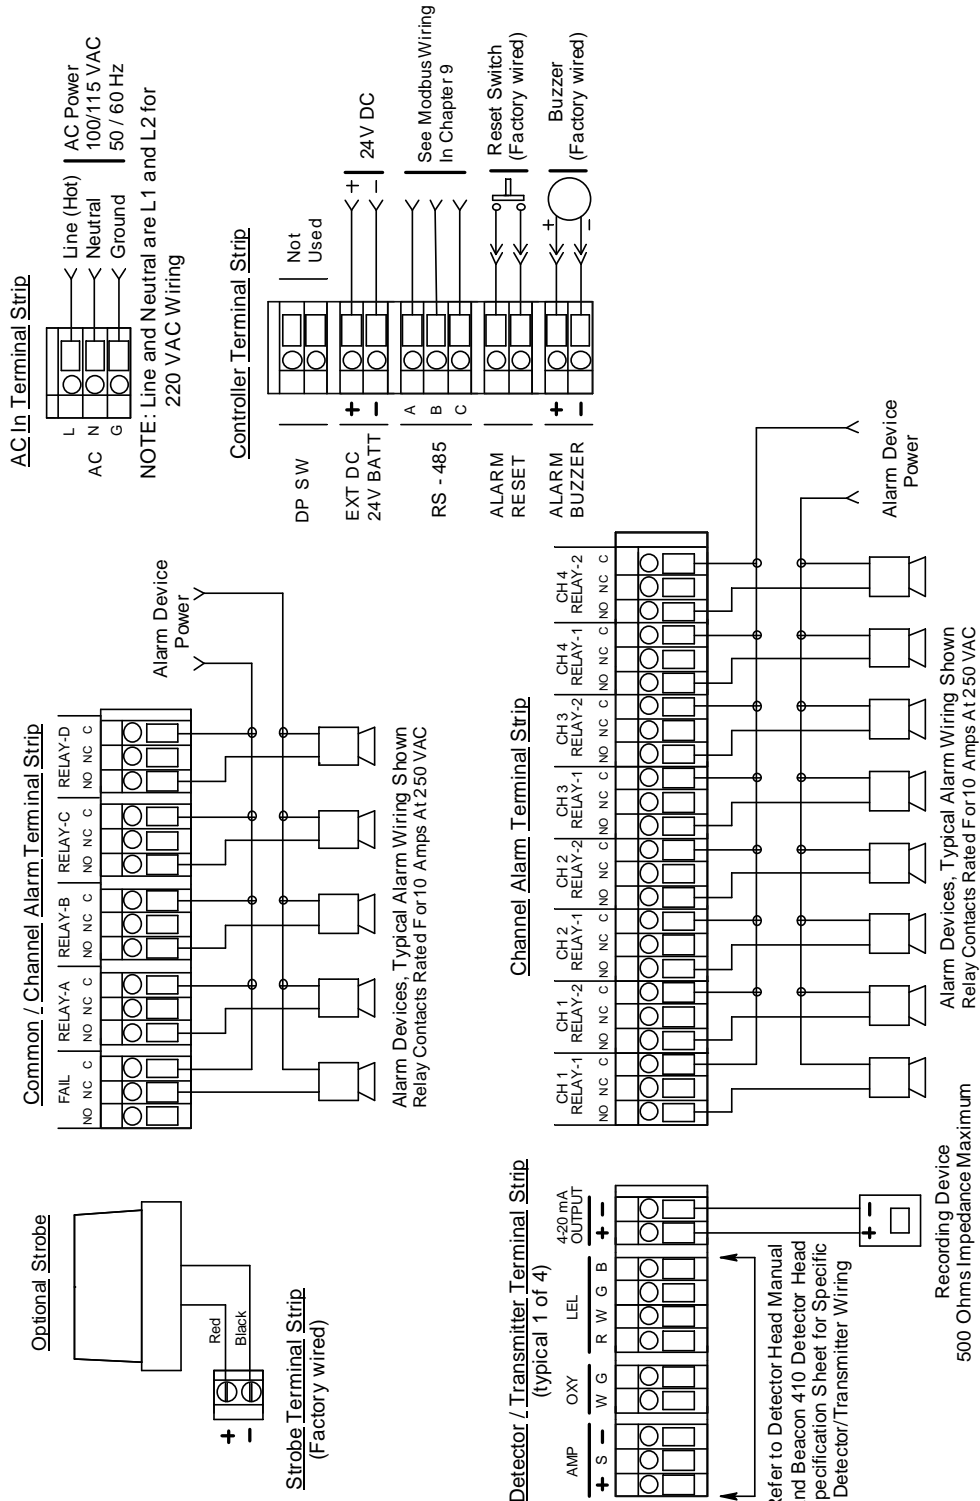

Figure 8: Beacon 410 Gas Monitor External Wiring Diagram
This section describes procedures to connect the AC power source, DC power source, Modbus wiring (refer to "Wiring the Beacon 410 in a Modbus System" on page 54), external alarms, recording devices, and detector heads. See Figure 8 on page 16 for a general diagram of all external wiring to the Beacon 410.
6. Connect the leads from the external alarm device and an external power source to the selected channel alarm or common/channel alarm relay contact terminals as shown in Figure 8.